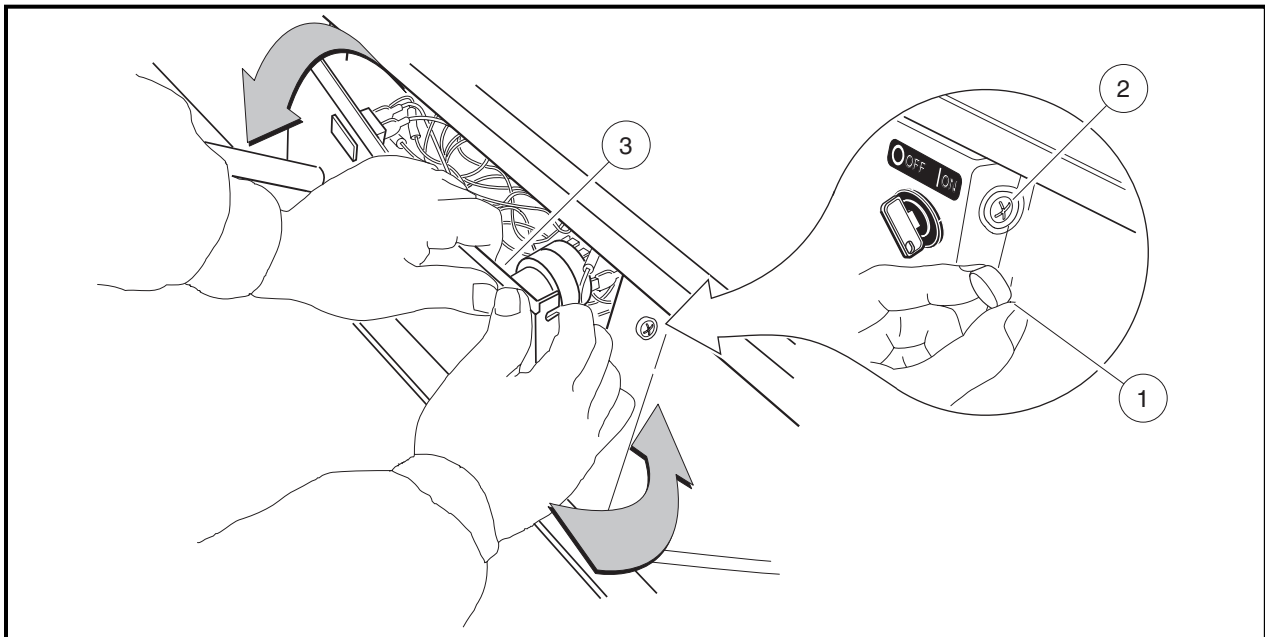

Figure 7-4 Dash Removal
4. Remove the center dash panel (**Figure 7-4, Page 7-4**).
- 4.1. Remove the plastic cap (1) covering the mounting screw (2) on each side of the center dash panel (3) (**Figure 7-4, Page 7-4**).